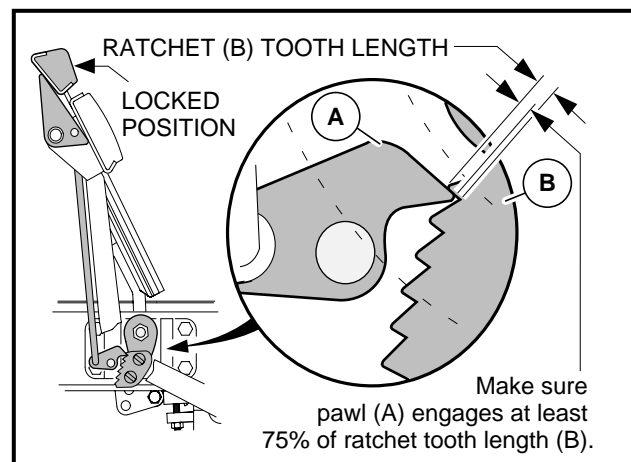

Figure 5-13 Ratchet/Pawl Tooth Engagement
- 2.4. With the park brake locked, make sure at least 75% of ratchet tooth length engages the pawl (**Figure 5-13, Page 5-9**). Tooth engagement should be between the two lines marked on the pawl.